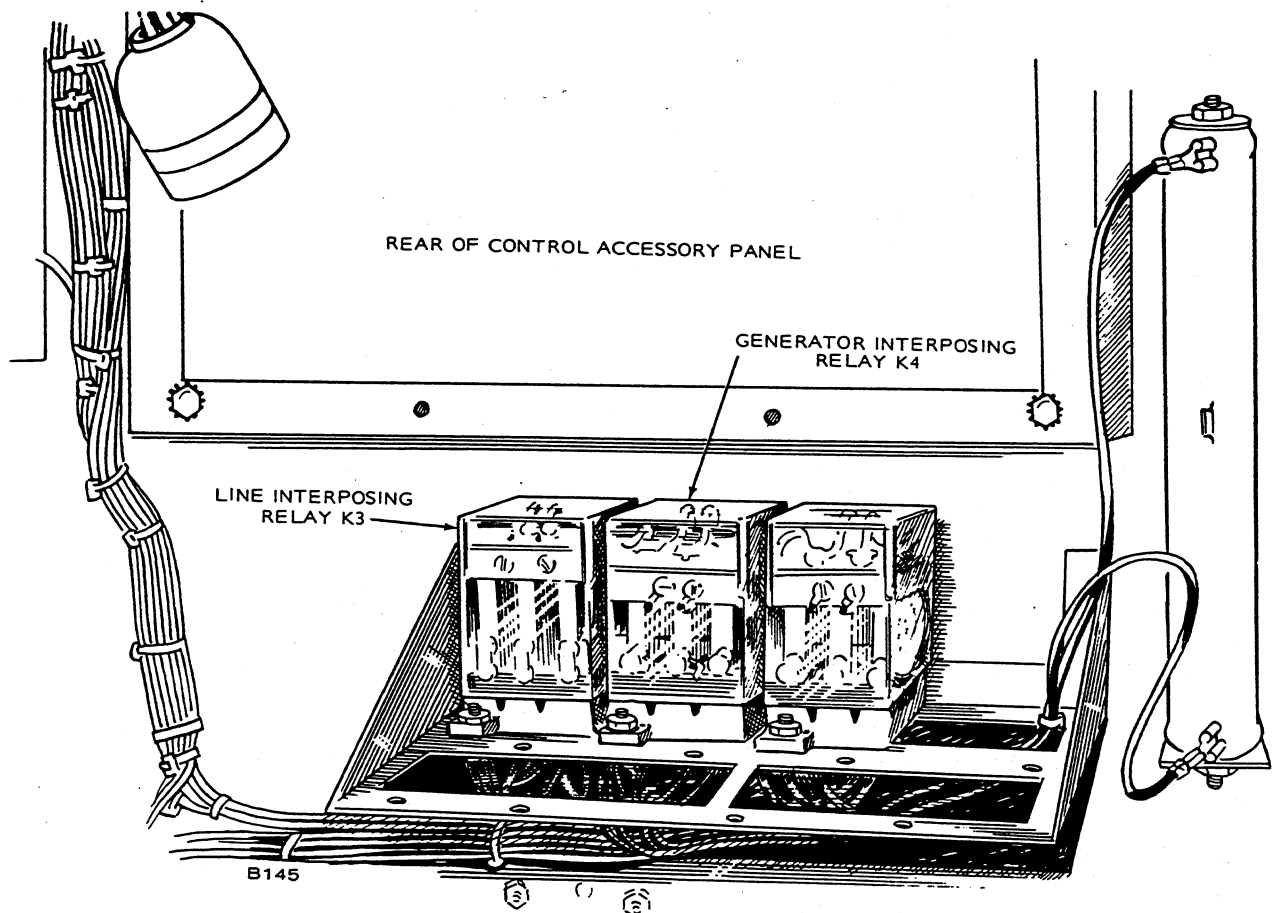

FIGURE 16. LOCATION OF INTERPOSING RELAYS
6. Locate generator interposing relay K4 (Figure 16).